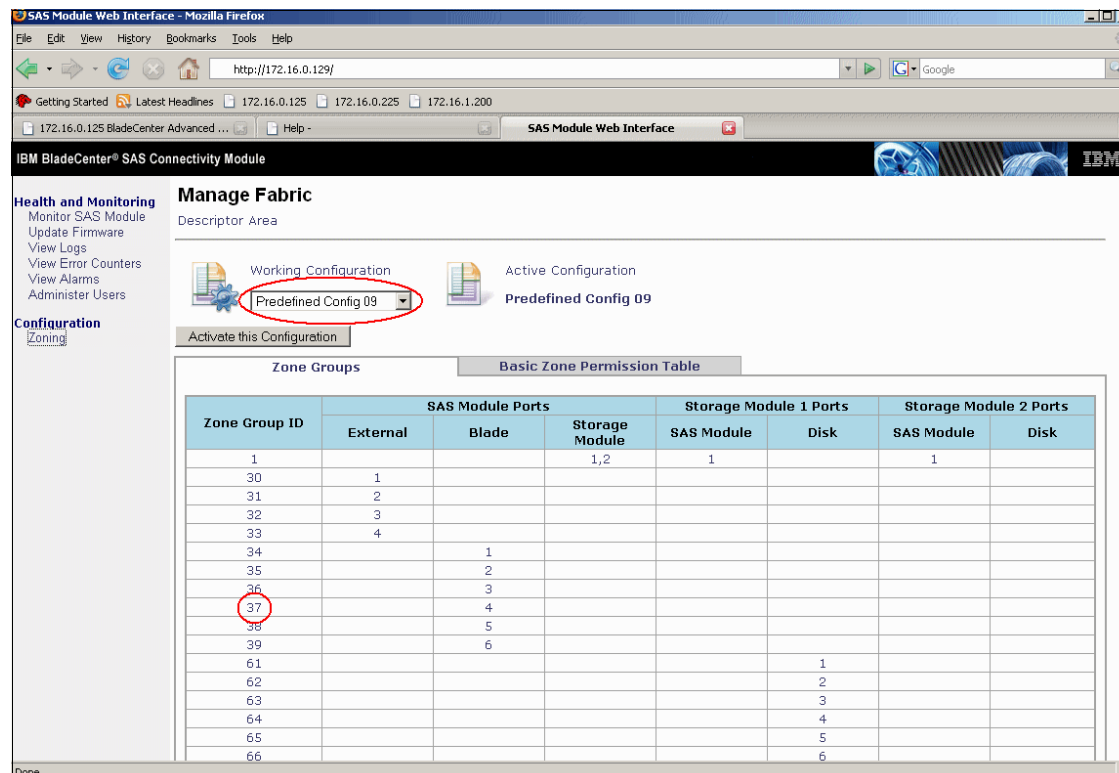

Figure 7-6 SAS connection module zone groups
2. Select **Zoning**. In the example shown in Figure 7-6 on page 256, **Predefined Config 09** is selected and active. Notice that our BladeCenter JS23/JS43 installed in slot 4, Zone Group ID 37 is configured. Remember the Zone Group ID for the following window to examine the corresponding hard disk drives.